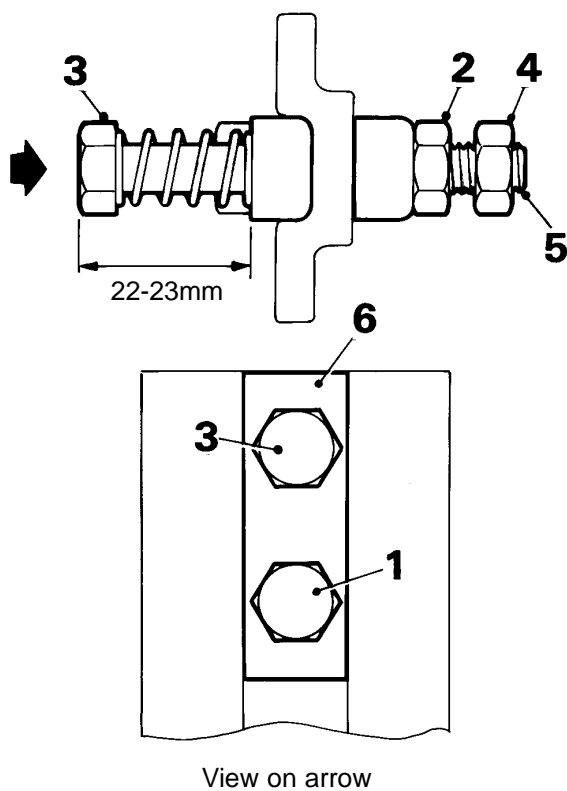

FIGURE 8
The stop bolt assembly is fitted to the rail as shown in figure 8. Tighten the nut on the attachment bolt (1) to 45Nm. Adjust the position of nut (2) on stop bolt (3) to obtain the dimension shown. Fit locknut (4) so that at least one full thread (5) is exposed when locked against nut (2). If the top of the installation does not terminate at the end of a complete section of rail it will be necessary to drill two 11mm diameter holes. Use the joint plate (6) as a template for hole positioning aligning the end of the joint plate with the end of the rail.